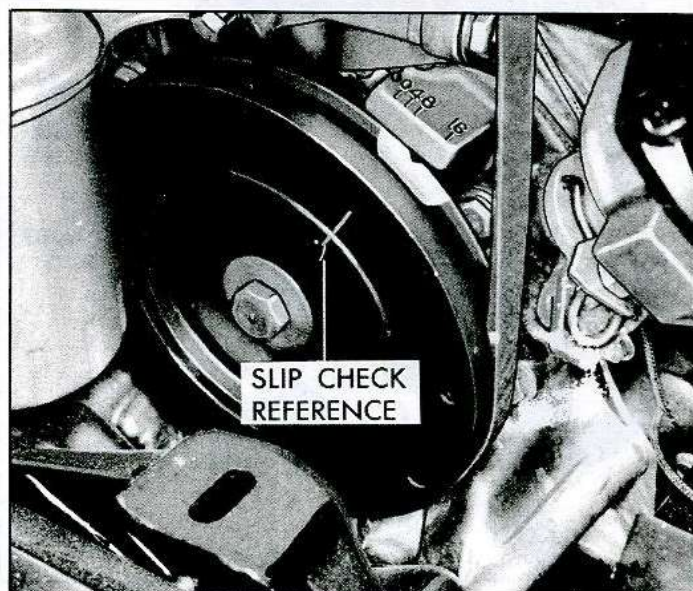

Fig. 11—Ignition Timing
1. Adjust timing as required by loosening distributor clamp bolt and rotating distributor body until specified timing is indicated at tab (fig. 11), then tighten distributor clamp bolt.